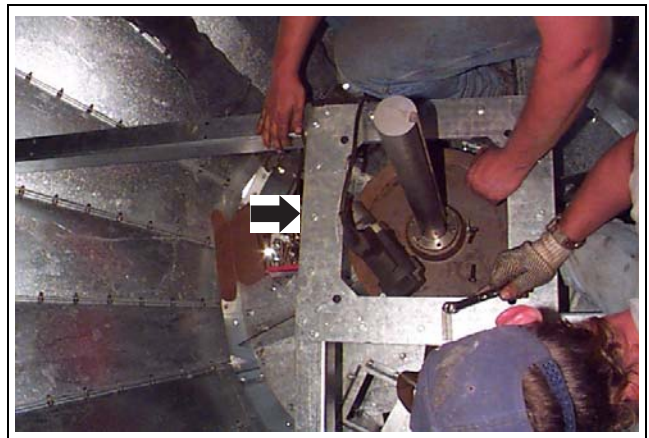

Figure 22P Assembling gearbox plate (arrow) to gearbox torque arms.
6. Assemble four (4) gearbox torque arms and gearbox plate as shown in *Figure 22P and Figure 22Q on Page 235.)*